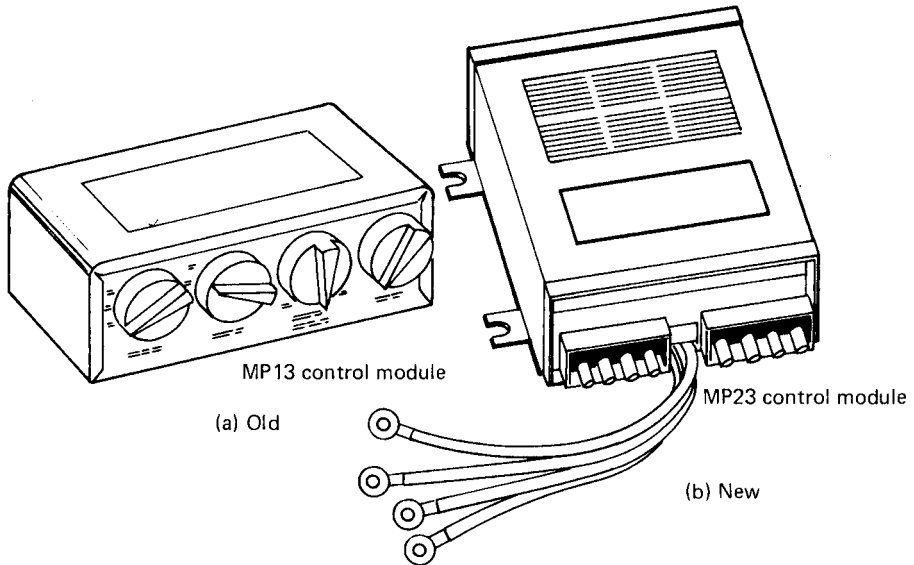

Figure 11-32 Solid-state control modules. (a) Older unit. (b) Newer unit. (Courtesy of Robertshaw)
2. The control module is a sealed enclosure containing a transformer and a switch. Figure 11-32 shows two models.